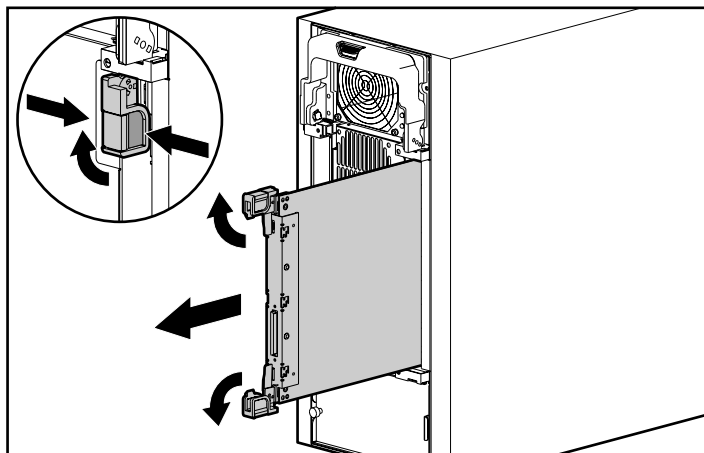

Figure 5-3. Removing the Single Bus I/O board
1. Squeeze the latches and pivot open the two ejector levers securing the Single Bus I/O board in the rear of the ProLiant Storage System /U. See Figure 5-3.